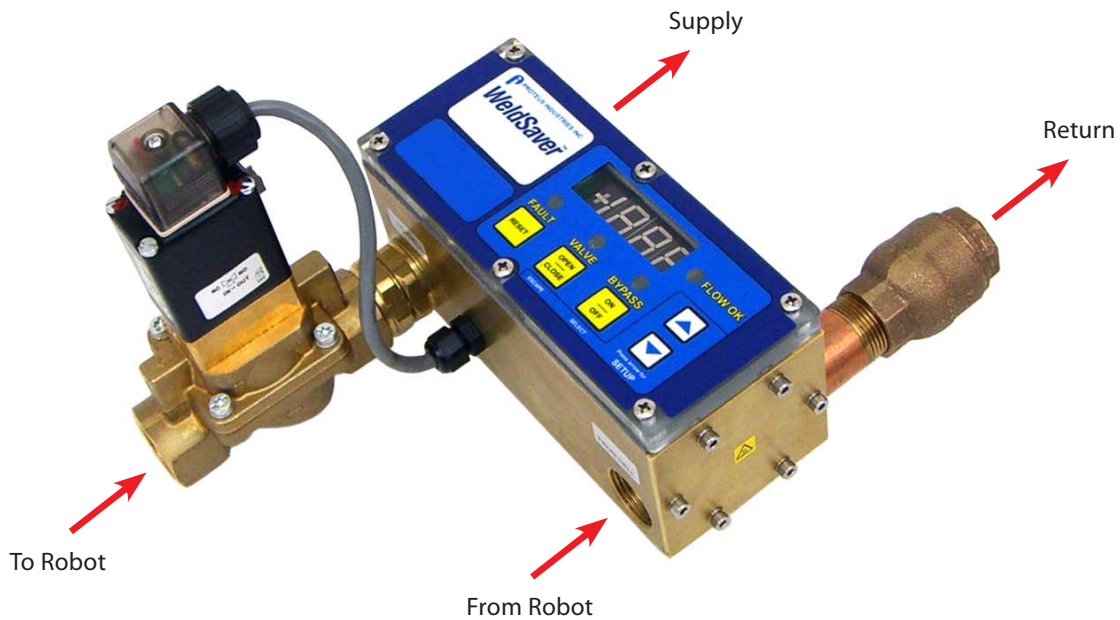

Figure 2: Plumbing connection locations of the WS1N WeldSaver
3. Refer to Figure 2 below to identify the water connection ports.